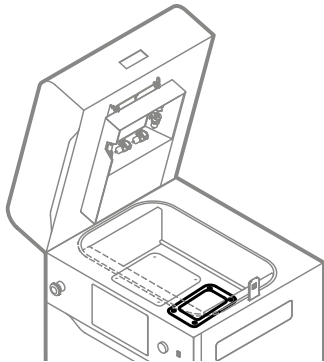

Fig. 12.28 Put on the Print Bed cover.
23. Put on the Print Bed cover (fig. 12.28).